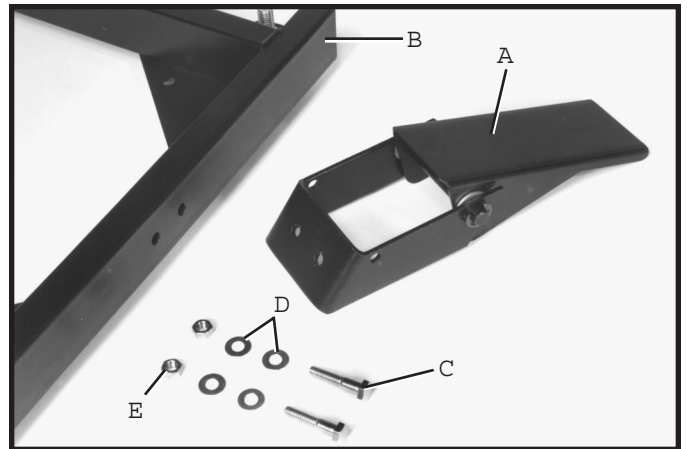

Fig. 4
1. Assemble foot lever assembly (A) Fig. 4, to the outside of mobile base (B) with two 1-1/2 inch-long hex head screws (C), four flat washers (D), and two hex nuts (E).